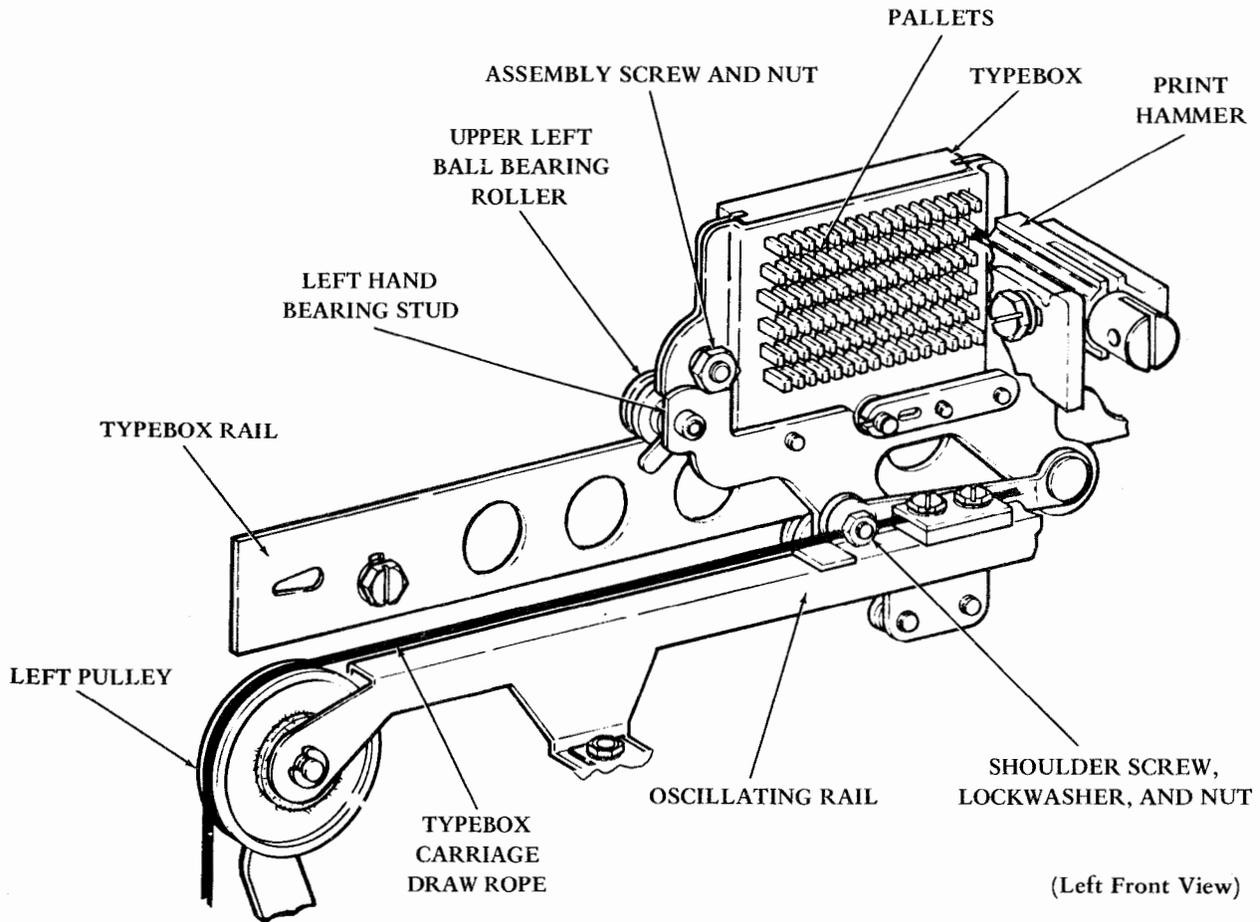

Figure 3 - Typebox, Typebox Carriage and Oscillating Rail
2.02 To remove the typebox from the carriage (Figure 3), trip the typebox latch toggle to the right. Lift the right end of the typebox up to an angle of 45 degrees, and pull the typebox toward the right to disengage it from the left hand bearing stud.
2.03 If it is necessary to replace the pallet or pallet spring TP157238, the typebox must be disassembled (Figure 3). The method used is as follows.
2.04 After replacing the pallet or pallet spring TP157238, the typebox must be reassembled (Figure 3). The method used is as follows.
2.05 To replace the typebox (Figure 3), reverse the procedure used for removal.
2.06 To remove the typebox carriage from the unit proceed as follows (Figure 3).
2.07 To replace the typebox carriage (Figure 3), reverse the procedure used for removal. Check Carriage Roller adjustment.